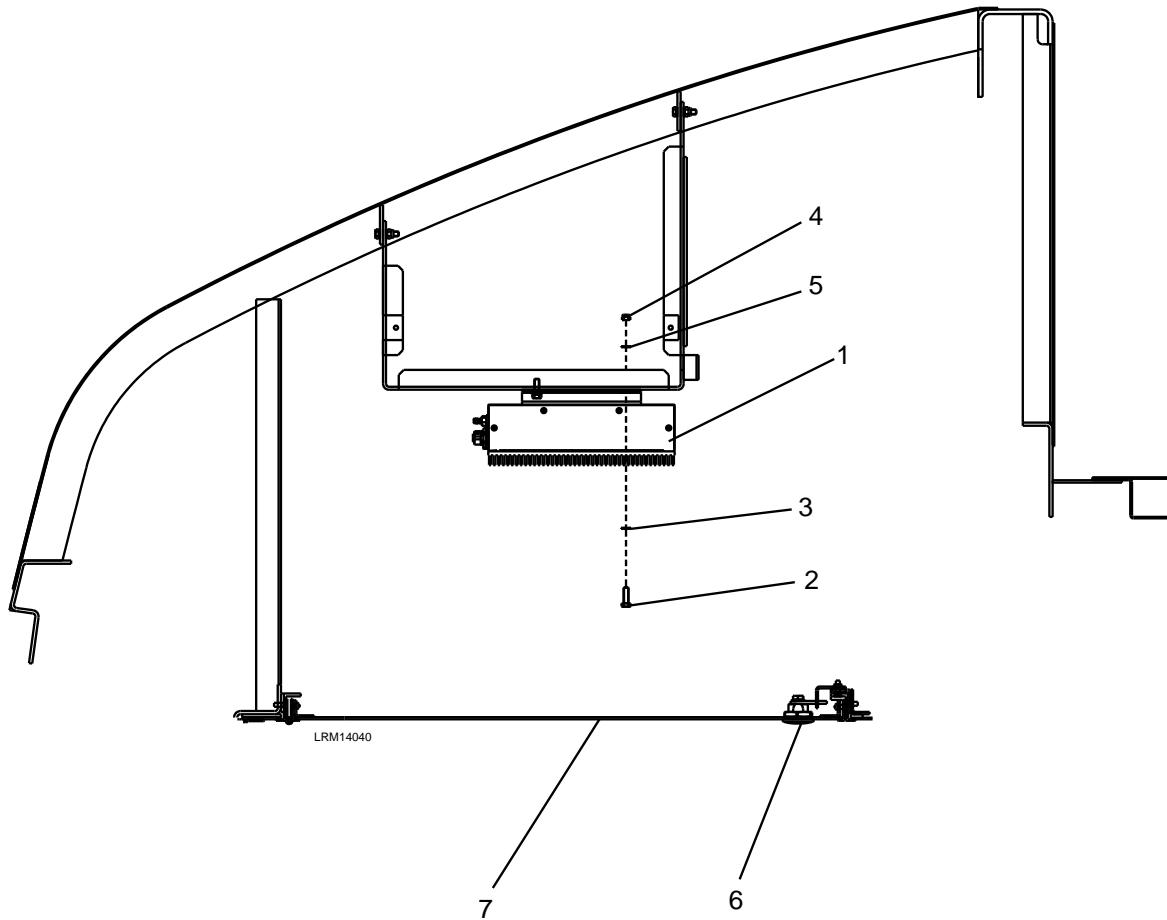

Figure 7-8: Passenger Information Controller
1. Unlock the two locks (6) and lower the cab ceiling panel (7) to access the Passenger Information Controller (1) and disconnect the electrical connections using a Torque Screwdriver for the M12 connections. See Figure 7-8.
2. Remove the four M4 x 16 bolts (2), M4 plain washers (3), M4 hexagon nuts (4) and M4 plain washers (5).
3. Carefully remove the Passenger Information Controller (1).